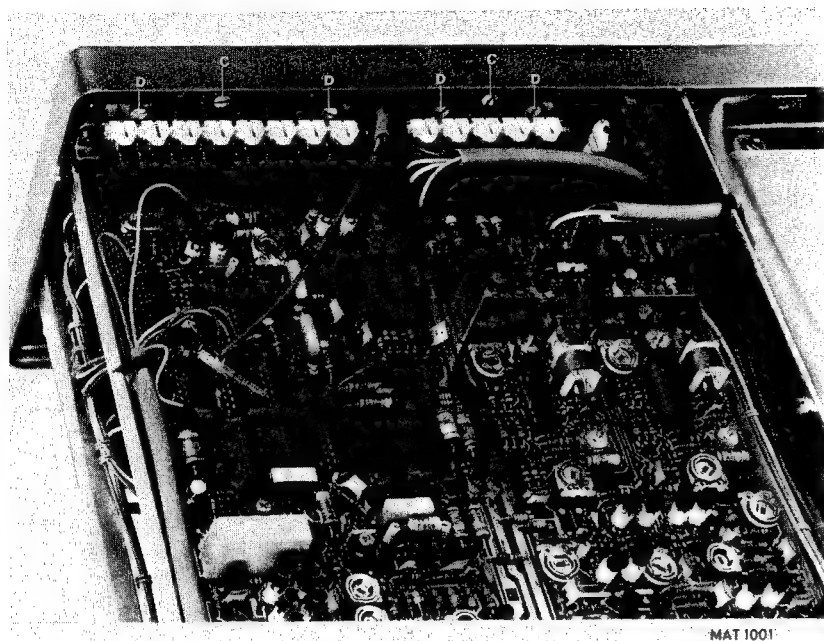

Fig. 6.6.
- Remove the two screws C (Fig. 6.6).
- Remove the four screws D that secure the pushbutton switches to the front panel (Fig. 6.6.).